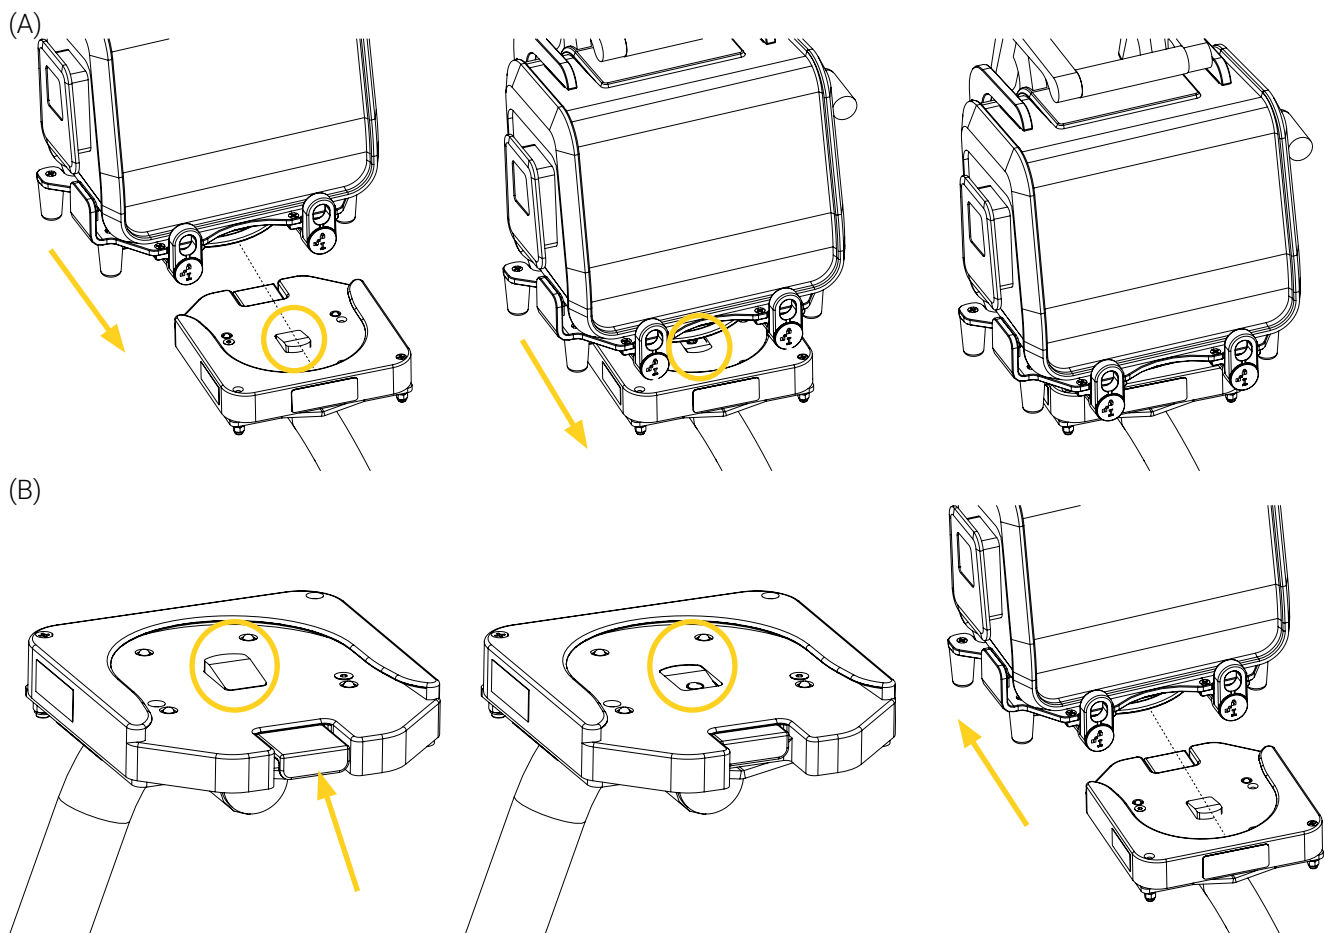

Figure 7: Locking/unlocking the mounting bracket on the SAS 500
- **To lock** the mounting bracket, align and insert the standard bottom disc of the bracket in the Standard Surface Base horizontally until you hear the click sound (Figure 7 A).
- **To unlock** the mounting bracket, press and hold the quick release button located at the front of the base, then pull on the bracket horizontally until the standard bottom disc is out of the base (Figure 7 B). Release the quick release button.